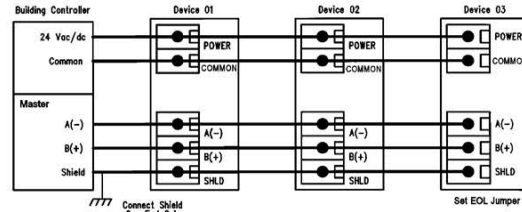

Fig. 3
polarity protected and will not operate if connected backwards. (Fig. 3, 4 and 5)
- Connect the RS-485 network with twisted, shielded pair to the terminals marked A(-), B(+) and SHIELD. The positive wire connects to B(+), the negative wire to A(-), and the cable shield must be connected to the SHIELD terminal on every device. (Fig. 3, 4 and 5)
- Devices must be “daisy-chained” with the network connections entering and exiting each device separately. “T” or “drop” connections often cause network transmission errors. (Fig. 3, 4 and 5)
- If the device is installed at either end of an RS-485 network, an end-of-line (EOL) termination resistor (121 ohm) should be installed parallel to the A(-) and B(+) terminals. This device includes a jumper-selectable network termination resistor and will correctly connect the 121 ohm resistor to the PCB. (Fig. 3, 4 and 5)